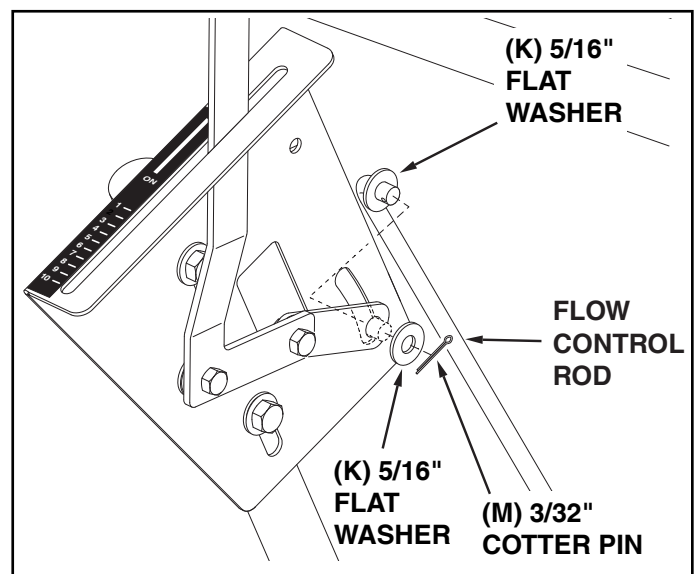

FIGURE 11
22. Place a 5/16" flat washer (K) onto the other end of the flow control rod. Insert the end of the rod through the curved slot in the flow control mounting bracket and through the hole in the flow control link. Secure with a 5/16" flat washer (K) and a 3/32" x 3/4" cotter pin (M). See figure 11.